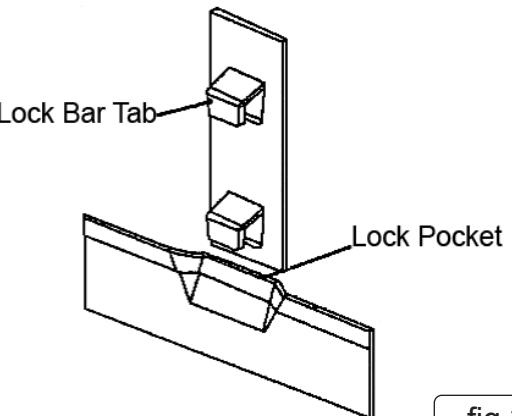

fig.3
- 4.2. If the lock bar tabs or pockets get damaged remove draws and with pliers or a screwdriver fig.3.